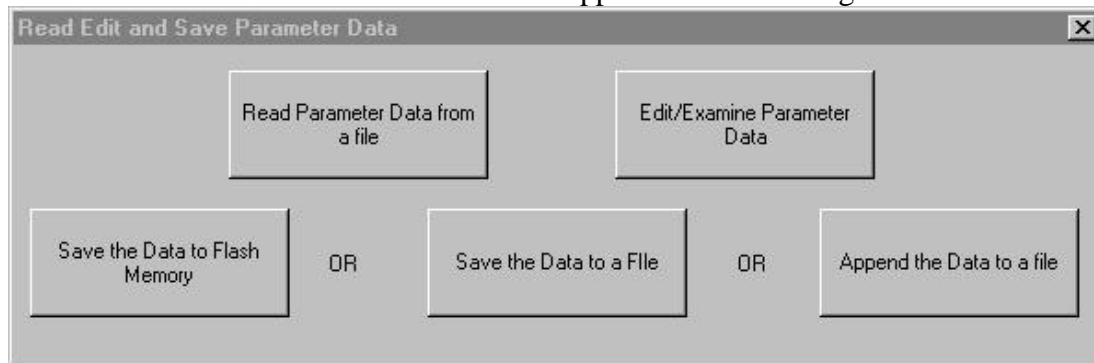

Figure 1
2. Start the Wintekhelp software. In the main menu click the "View/Edit Parameters" button. The sub menu will appear as shown in figure 1:
5. In the sub menu shown in figure 1, click “ Save Data to Flash Memory” button.